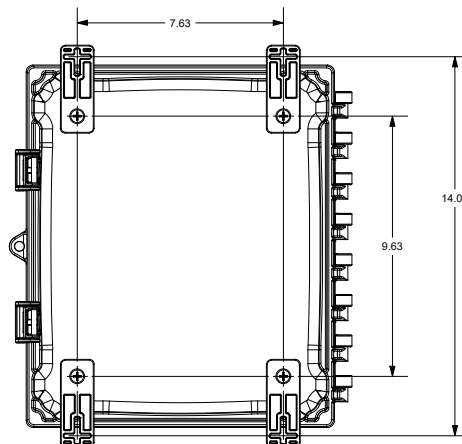

Figure 1.
The Hubbell Control Solutions’ NX energyHUBB™ hosts the energy dashboard. The energyHUBB system is housed in an enclosure where its pre-wired and assembled on a DIN rail and connected to a DIN rail power supply. (See Figure 1)
4. Wall mount the enclosure assembly using appropriate mounting screws (not included) according to the 4 mounting keyholes (See Figure 1). Note: An optional mounting foot with screws is provided for ease of wall mounting.